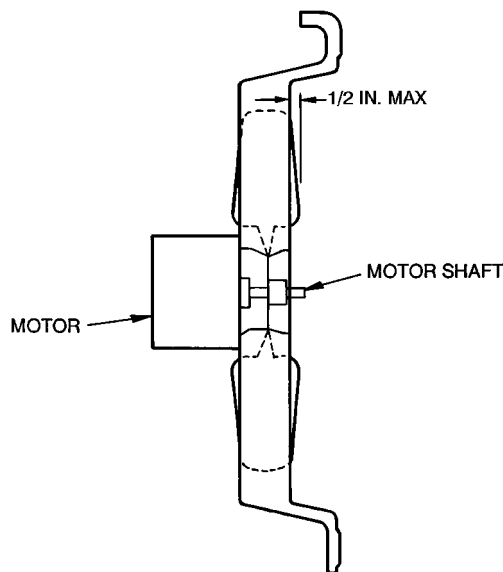

Fig. 23 — Fan Blade Clearance
- Make sure that condenser-fan blade is correctly positioned in fan orifice. Leading edge of condenser-fan blade should be $\frac{1}{2}$ in. maximum from plastic fan orifice (see Fig. 23).